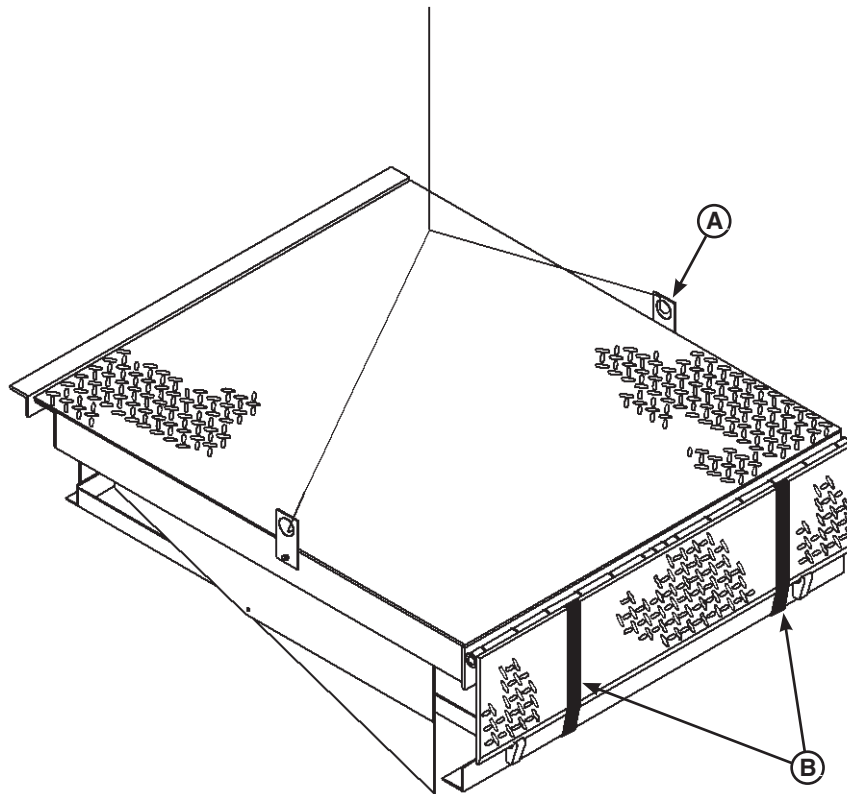

Figure 4
1. Remove any bumpers that may be banded or bolted to the frame of the dock leveler (Figure 4).
DO NOT remove the shipping bands (B) around the platform lip and leveler frame at this time (Figure 4).
**NOTE:** Overall width of platform and lifting brackets (A) must be kept to a minimum to prevent interference between the lifting brackets and the pit walls as the dock leveler is lowered into the pit.
2. Make sure the mounting hardware of lifting brackets (A) is snug. The brackets should pivot relatively freely on the mounting cap screw. DO NOT over-tighten (Figure 4).
3. Attach lifting chains to lifting brackets (A) and to a lifting device (i.e., hoist or fork truck) having the appropriate lifting capacity and reach (Figure 4).
4. Remove wood blocks that are attached to the leveler frame before putting the dock leveler into the pit (Figure 4).
Poweramp dock levelers are designed with installation in mind. Each unit is shipped with lifting brackets (A) fastened to the platform side joists (Figure 4).
*DO NOT remove the shipping bands (B, in Figure 4) around the platform lip and leveler frame at this time. The shipping bands are needed to hold the leveler together during the installation process.*